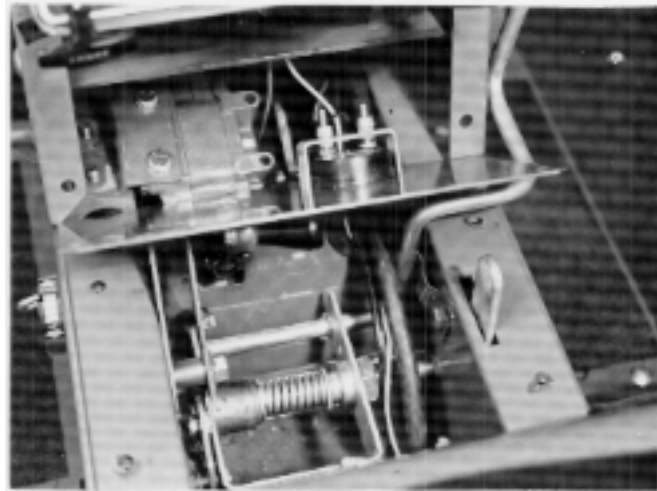

Fig. 7-4 C-Series Hydraulic Valve Removal
4. Remove ammeter mounting panel and disconnect two (2) connectors from ammeter. See Fig. 7-4.